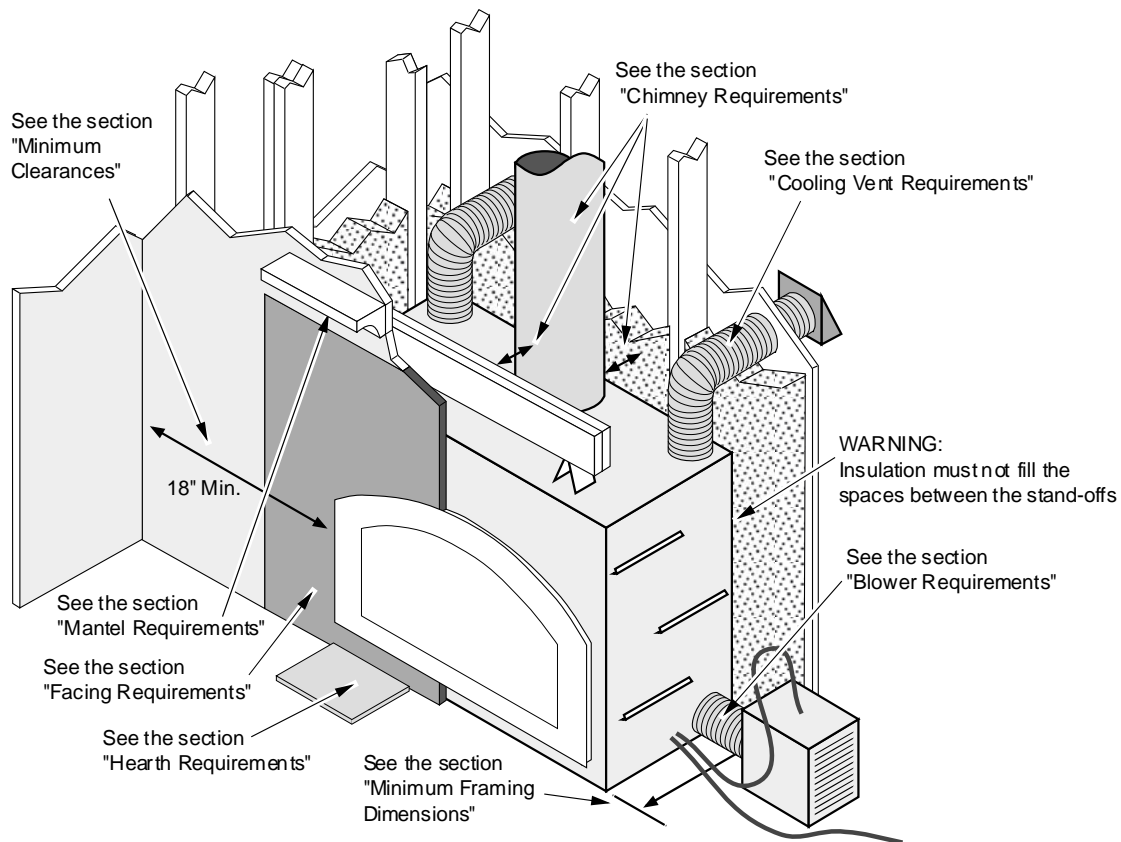

Figure 3
- When installed, walls in front of the fireplace must be a minimum 18" to the side of the faceplate (15-1/2" from the side of the fireplace). See Figure 3 on page 7.